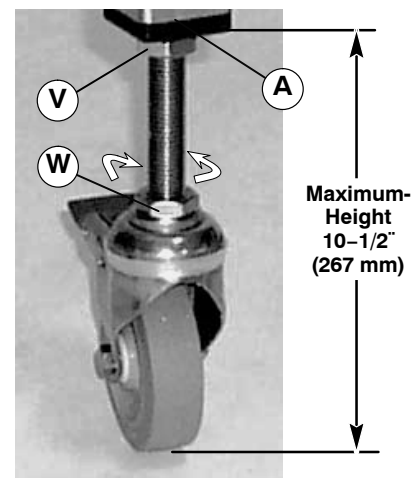

Figure 11
1. Loosen nut (V of Figure 11).
5. Tighten nut (V of Figure 11) to secure each caster assembly.